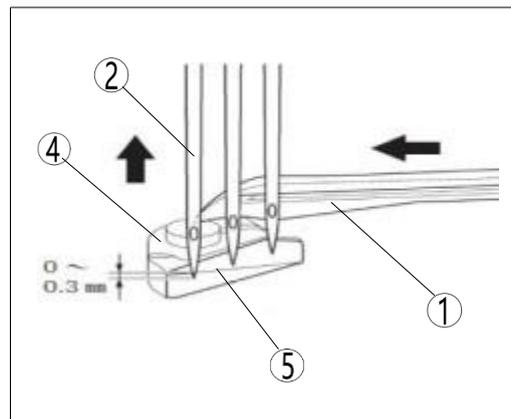

Figure 7-20
(1) Turn the handwheel, raise the needle, and move the hook tip① to the center of the left needle②. (Figure 7-20)
(3) Adjust the edge line⑤ of the rear thimble plate④ to 0–0.3mm from the tip of the left needle②. (Figure 7-20)